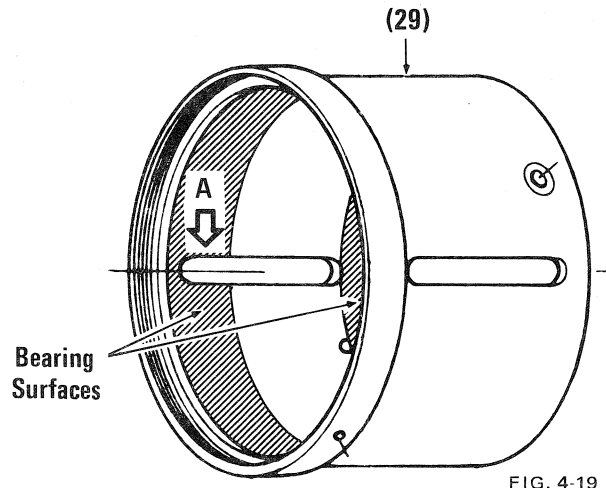

FIG. 4-19
- g) Apply a thin film of lubricant "A" to the bearing surfaces of 1st lens slide housing (29). Slide the housing onto inner helicoid; rotate and slide it back and forth to spread the lubricant evenly over the surfaces. Separate and wipe off excess lubricant. Fig. 4-19.